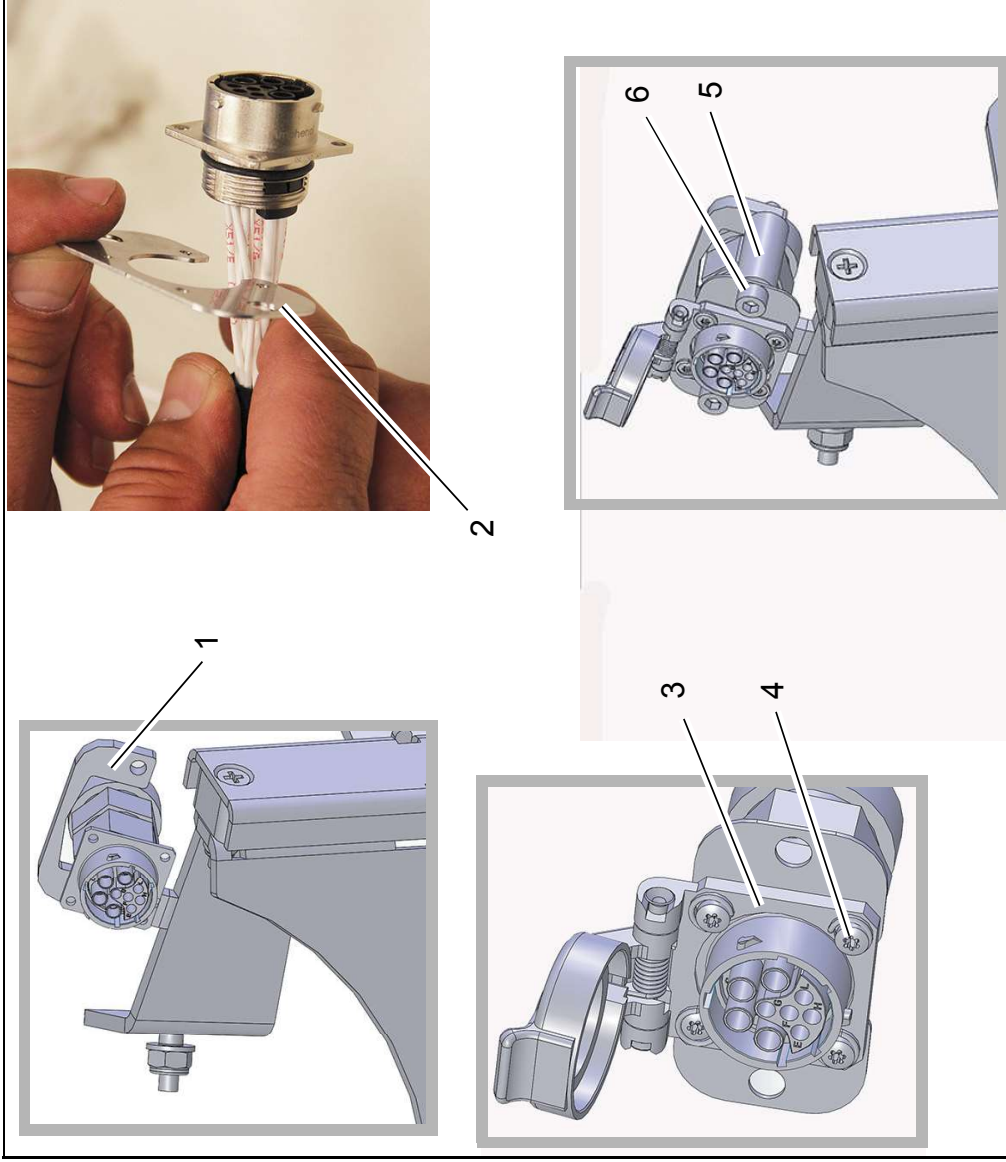

Fig. 6
1. Pass the bushing X51 of the cable loom W54 through the opening of the right-hand holder (Fig. 6/1).
2. Unscrew bushing from corrugated hose, and place adapter plate (Fig. 6/2) between them. Screw corrugated hose to bushing again.
3. Screw hinged cover (Fig. 6/3), bushing and adapter plate together with four self-tapping screws M3x8 (Fig. 6/4).
4. Screw pre-assembled part to the right-hand holder with the two bushings (Fig. 6/5) and the two self-tapping screws M6x40 (Fig. 6/6).